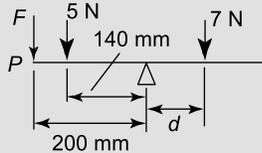

Figure 5.4
**Problem 3.** A system of forces is as shown in Figure 5.4.